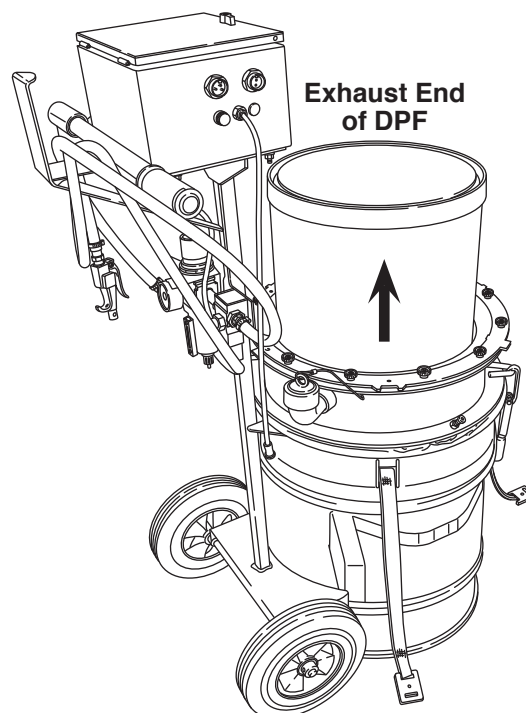

Figure 4
1. Gently place the DPF into the machine. Center the DPF in the ring seal with the arrow on the side of the DPF pointing UP (indicating the direction of the exhaust flow). See Figure 4. Verify the ring seal is sealing against the canister body.